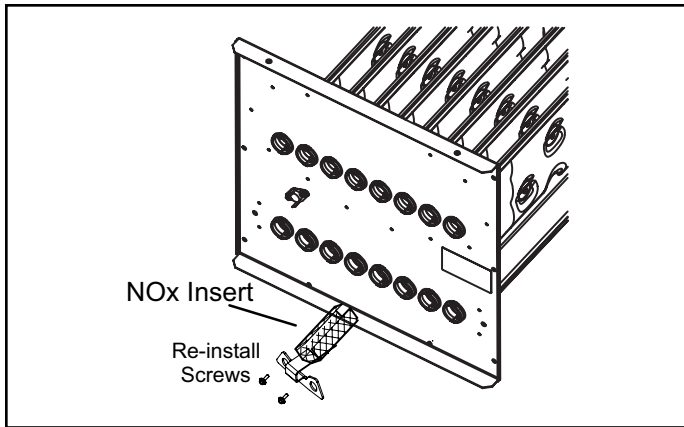

Figure 5. NOx Inserts
- b. Remove the screws which secures each of the NOx inserts to the clamshell. Remove the NOx inserts and reinstall the screws. See Figure 5.